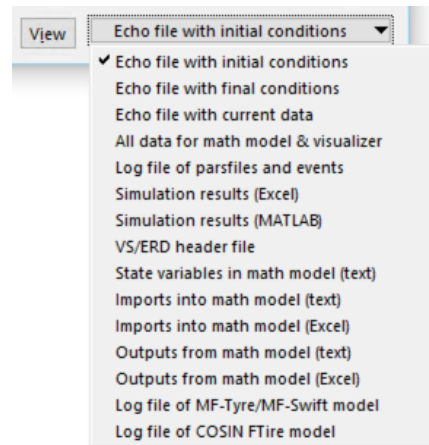

Figure 16. Drop-down list with files associated with current run that can be viewed.
- ②① Image of the simulated system taken from the link to the vehicle/system dataset ①. This image is shown if the selected vehicle/system has an associated image and if the lower-middle part of the screen is not being used to show settings for advanced users. The image is set when the blue link to the vehicle is made or modified.
- ②② **View** button and file type drop-down list. Click this button to view more information associated with the math model as configured for this simulation. The drop-down list has options to select different files that show how the model was set up for the simulation (Figure 16, for CarSim).